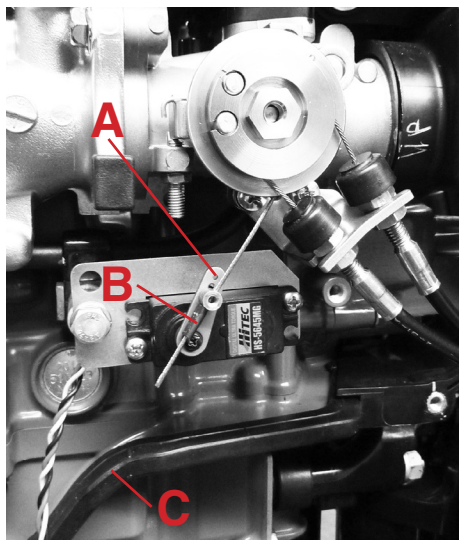

Fig 7
Step 15: See Fig. 7
- See Fig 7: Install servo arm (A) as shown. Install Phillips head screw in center of servo arm!
- Slide supplied cable sleeve (B) onto throttle cable.
Step 17: See Fig. 7
- Reinstall side panel of motor. Make sure seal (C) in picture meets groove on side panel.